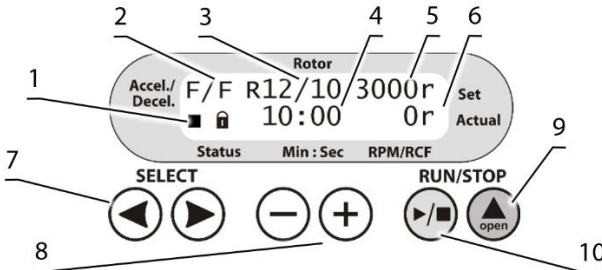

Figure 5. LMC-3000 control panel
- Check the power cord for any signs of damage. Connect the power cord to a properly grounded mains socket. Set the power switch on the unit to position **I** (on). Press the **▲ Open** key (fig. 5/9 or 6/11) and lift the lid by hand.
- Acceleration and deceleration modes (fig. 5/2 or 6/2);
- Rotor selection (fig. 5/1 or 6/1);
- Set rotor speed in RPM or RCF1 (fig. 5/6 or 6/6);
- Status icons of rotor, ■ stopped or ► running (fig. 5/1 or 6/1, first symbol);
- Status icons of lid, ▣ closed or ▤ open (fig. 5/1 or 6/1, second symbol);
- Set time of centrifugation, in minutes and seconds (fig. 5/4 or 6/4);
- Actual rotor speed, in RPM or RCF (fig. 5/6 or 6/6);
- 5.4 Press the ▲ **Open** key (fig. 5/9 or 6/11) and lift the lid by hand. Check the rotor and buckets for any signs of wear or corrosion and replace if necessary. Insert EVEN number of tubes/microtest plates in rotor one opposite another. The loading in the opposite tubes must be equal.
- 5.5 **Setting parameters.** Use the **SELECT** ◀ and ▶ keys (fig. 5/7 or 6/10) to choose a parameter and the – and + keys (fig. 5/8 or 6/9) to modify it. Selected parameter will be blinking. Program automatically saves any changes made after no keys are pressed for 2 seconds.
- 5.5.1 Acceleration modes (fig. 5/2 or 6/2, first letter). Three modes of acceleration are available, slow (shortened to **S**), normal (**N**) and fast (**F**).
- 5.5.2 Deceleration modes (fig. 5/2 or 6/2, second letter). Four modes of deceleration are available, free brake (**0**), slow (**S**), normal (**N**) and fast (**F**).
5.5.3 Installed rotor (fig. 5/3 or 6/3). Select the rotor that is currently installed in the centrifuge. Combinations of rotors, adapters and their maximum allowed speed is listed below:
5.5.4 Rotation parameters (fig. 5/5 or 6/5). Rotor speed can be set in RPM and in RCF, denoted after numeric value by **r** and **g**, accordingly. Values convert after changing units. RCF depends on selected rotor or adapters, as shown in **5.5.3**.
5.5.6 Time setting (fig. 5/4 or 6/4). Select duration of centrifugation in minutes, step 1 minute.
5.6 Close the lid carefully and smoothly until a clicking sound is heard. Icon  appears on the display (fig. 5/1 or 6/1).
5.7 Press the **RUN/STOP** / key (fig. 5/10 or 6/12) to start centrifugation. Icon  (fig. 5/1 or 6/1) and actual speed (fig. 5/6 or 6/6) are shown in the lower line of the display. The timer (fig. 5/4 or 6/4) starts the countdown after set speed is achieved.